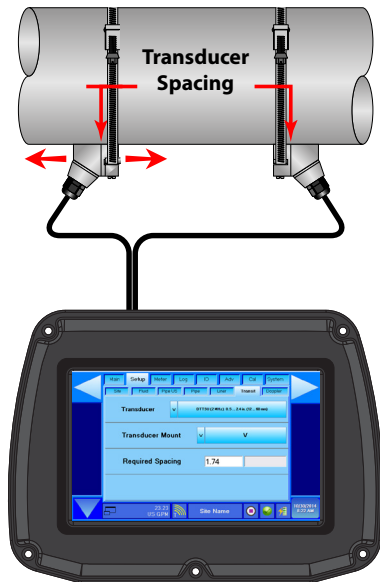

Figure 21: Transducer positioning
2. Using the alignment marks, place the downstream transducer on the pipe at the calculated transducer spacing. See *Figure 21 on page 24*. Apply firm hand pressure. If signal strength is greater than 10%, secure the transducer at this location. If the signal strength is not greater than 10%, using firm hand pressure, slowly move the transducer both towards and away from the upstream transducer while observing signal strength. Signal strength can be displayed on the flow meter's display. Clamp the transducer at the position where the highest signal strength is observed. The factory default signal strength setting is 10%. However, there are many application-specific conditions that may prevent the signal strength from attaining this level. Signal levels less than 10% are not acceptable for reliable readings.